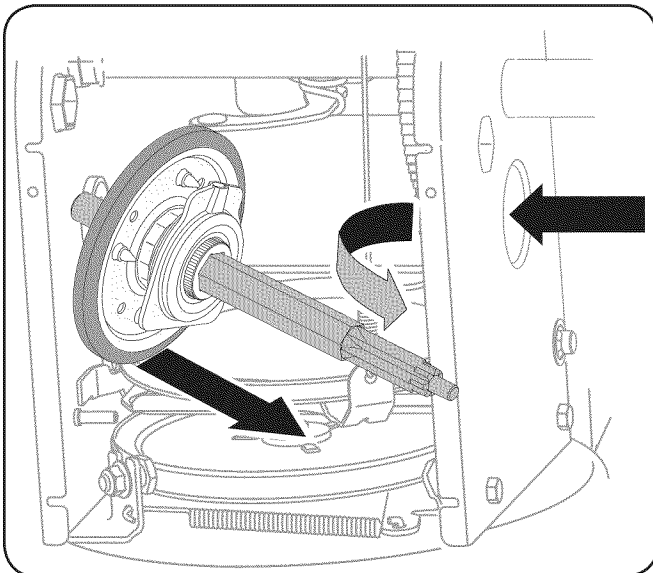

Fig. 7-10
- Carefully position the hex shaft downward and to the left before carefully sliding the friction wheel assembly off the shaft. See Fig. 7-10.